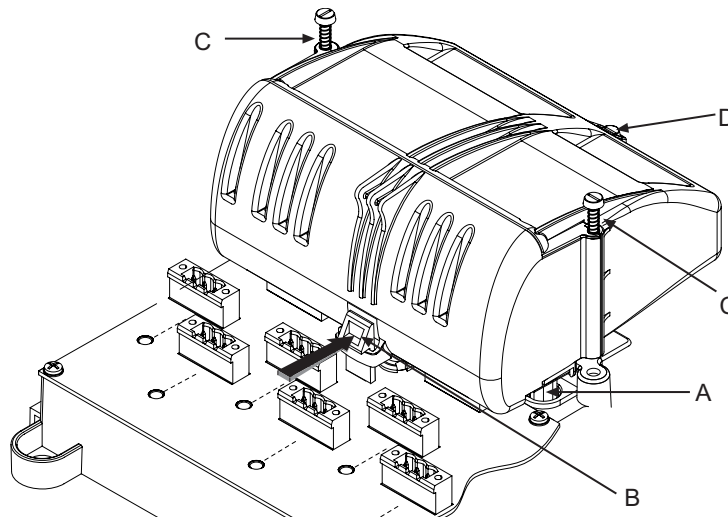

Figure 5.1 - Fieldbus Barrier module - fitting & removal
5.2.2.1 Removing a Fieldbus Barrier module (refer to Figure 5.1)
- Slowly pull the 9377-FB-R Fieldbus Barrier module away from its connections on the carrier until the safety retaining clip (B) stops further removal.
5.2.2.2 Fitting a Fieldbus Barrier module (refer to Figure 5.1)